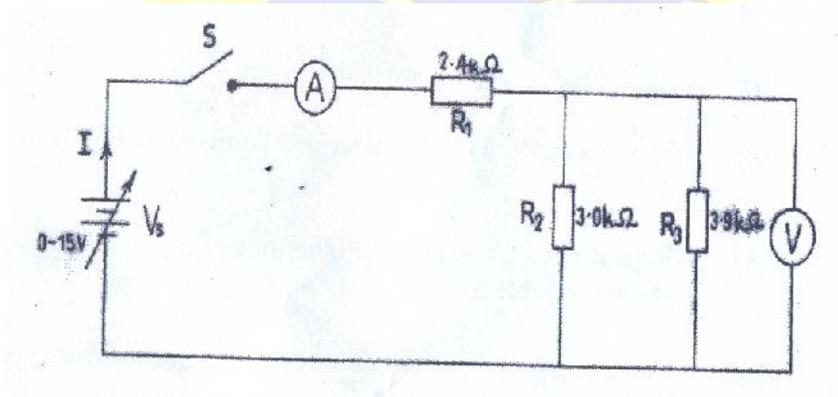

Figure 2
- (a) Connect the circuit as shown in figure 2.